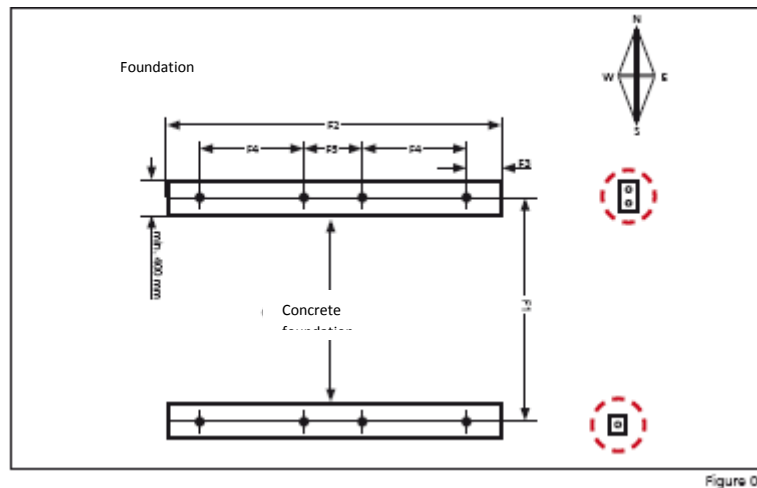

Figure 01
- > Using figure 01, measure and make marks on the concrete
Before attaching, make sure you have properly positioned the wide U formed sections for the part pointing towards the foundations pole and the narrow U formed sections for the part pointing towards the equator (see Figure 01, red circles).